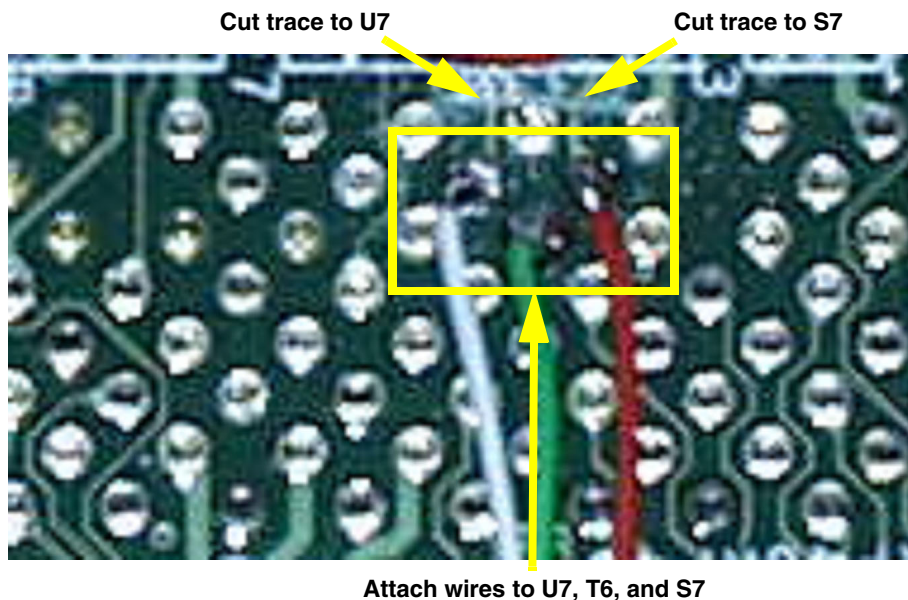

Figure 3. Cut On-Die Thermal Diode Traces and Connect Wires
1. Cut the traces to both the THDA (pin S7) and THDC (pin U7) socket pins on the motherboard, as shown in Figure 3, thereby disconnecting the on-die thermal diode from the on-board sensor.